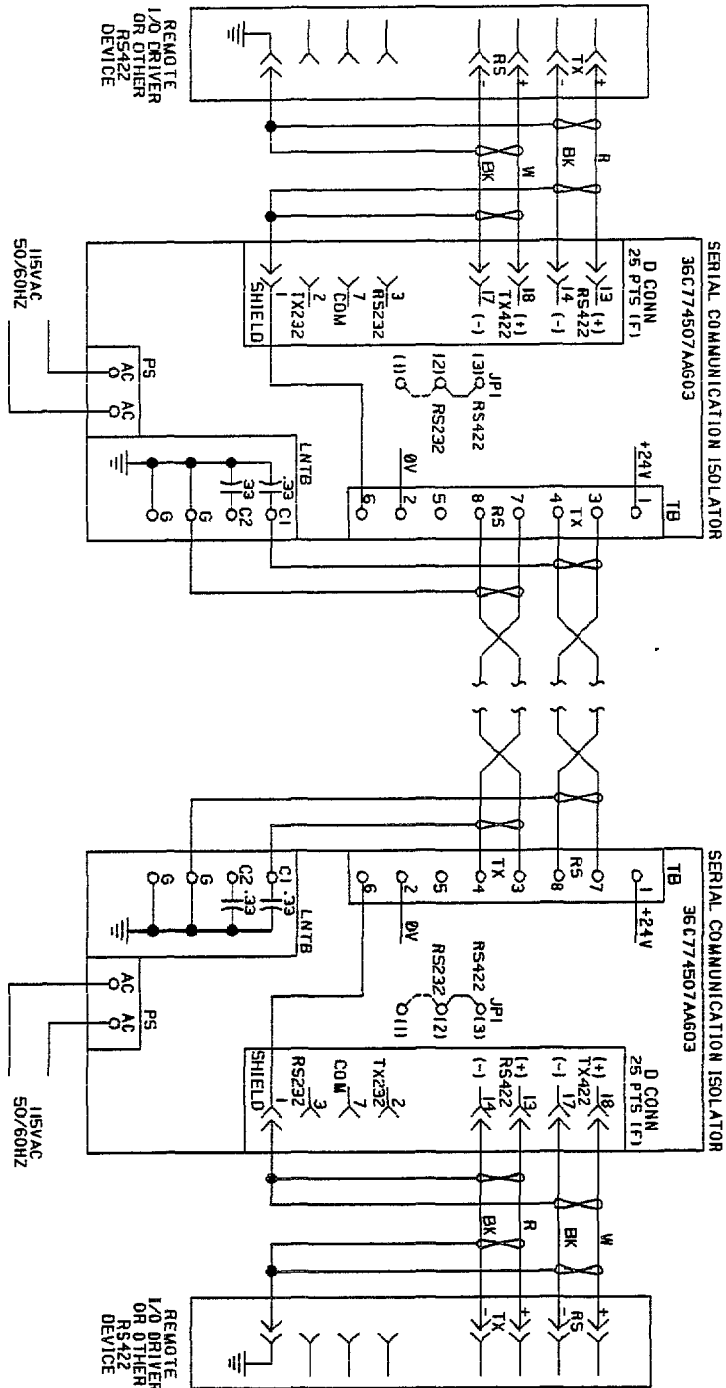

FIGURE 4. Typical Connections For Serial Communications Isolator
CAUTION: It is critical that, relative to one Serial Communications Isolator, the transmit signals (TX+ and TX-) remain physically paired in one shielded cable, and the receive signals (RX+ and RX-), paired in another separate cable (see FIGURE 4). Incorrect pairing of the cables will result in cross-talk and communications errors.
The Balun assembly incorporates two ferrite cores through which the data level power supply (+12 VDC) leads are passed for noise suppression. A terminal board, LNTB, mounted on the assembly, provides for termination of the transmission cable shield through a 0.33 microfarad capacitor. The capacitor is connected to chassis ground to drain high frequency "noise", while preventing circulating currents between it and the direct ground connection of the receiving cable shield (see FIGURE 4).
The shields of data communication and transmission cables must be solidly grounded at one end only. (FIGURE 4 shows a typical installation.) It should be noted that no ground loops are permitted. If the earth ground shown at the RS-232C or RS422 device is not available, the shield of the device to the Serial Communications Isolator cables may be grounded through the Serial Communications Isolator terminal board (TB). Connect terminal 6 to either "C1" (or "C2") or "6" on the LNTB as necessary to provide adequate grounding while assuring no ground loops are present.